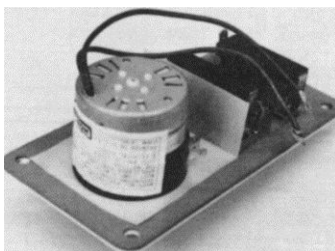

Fig. 3
- C. Assemble the timer and insulator to the new switch plate using the #6 screws provided. The timer should be positioned so its terminals are toward the switches. The insulator is mounted between the timer and the plate so the mounting holes align and the folded up portion will be between the timer and switches (Fig. 3).